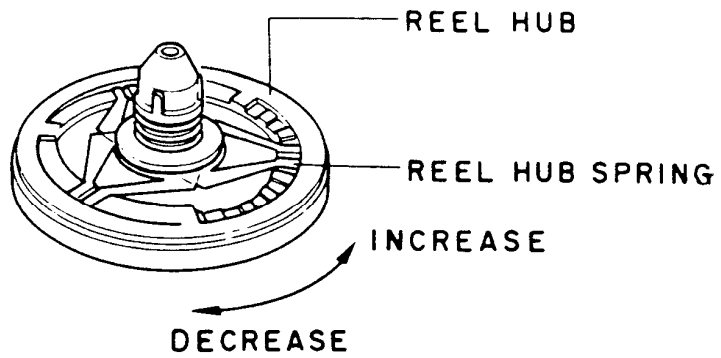

Fig. 3
8. Load the Torque Gauge and check whether the take-up and rewind torques are in a range of 45 ± 10 g-cm and 35 to 60g-cm, respectively. If either torque is out of the range, adjust the torque by moving Reel Hub Spring, as shown in Fig. 3.